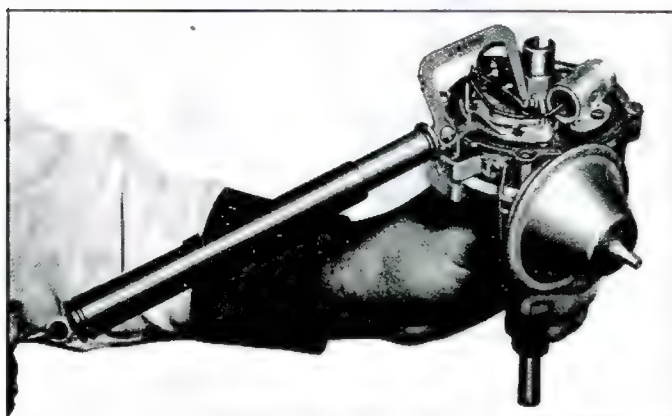

Fig. 3i—Checking Breaker Arm Spring Tension
8. Check and adjust points for proper alignment and breaker arm spring tension (fig. 3i). Use an aligning tool to bend stationary contact support if points need alignment.